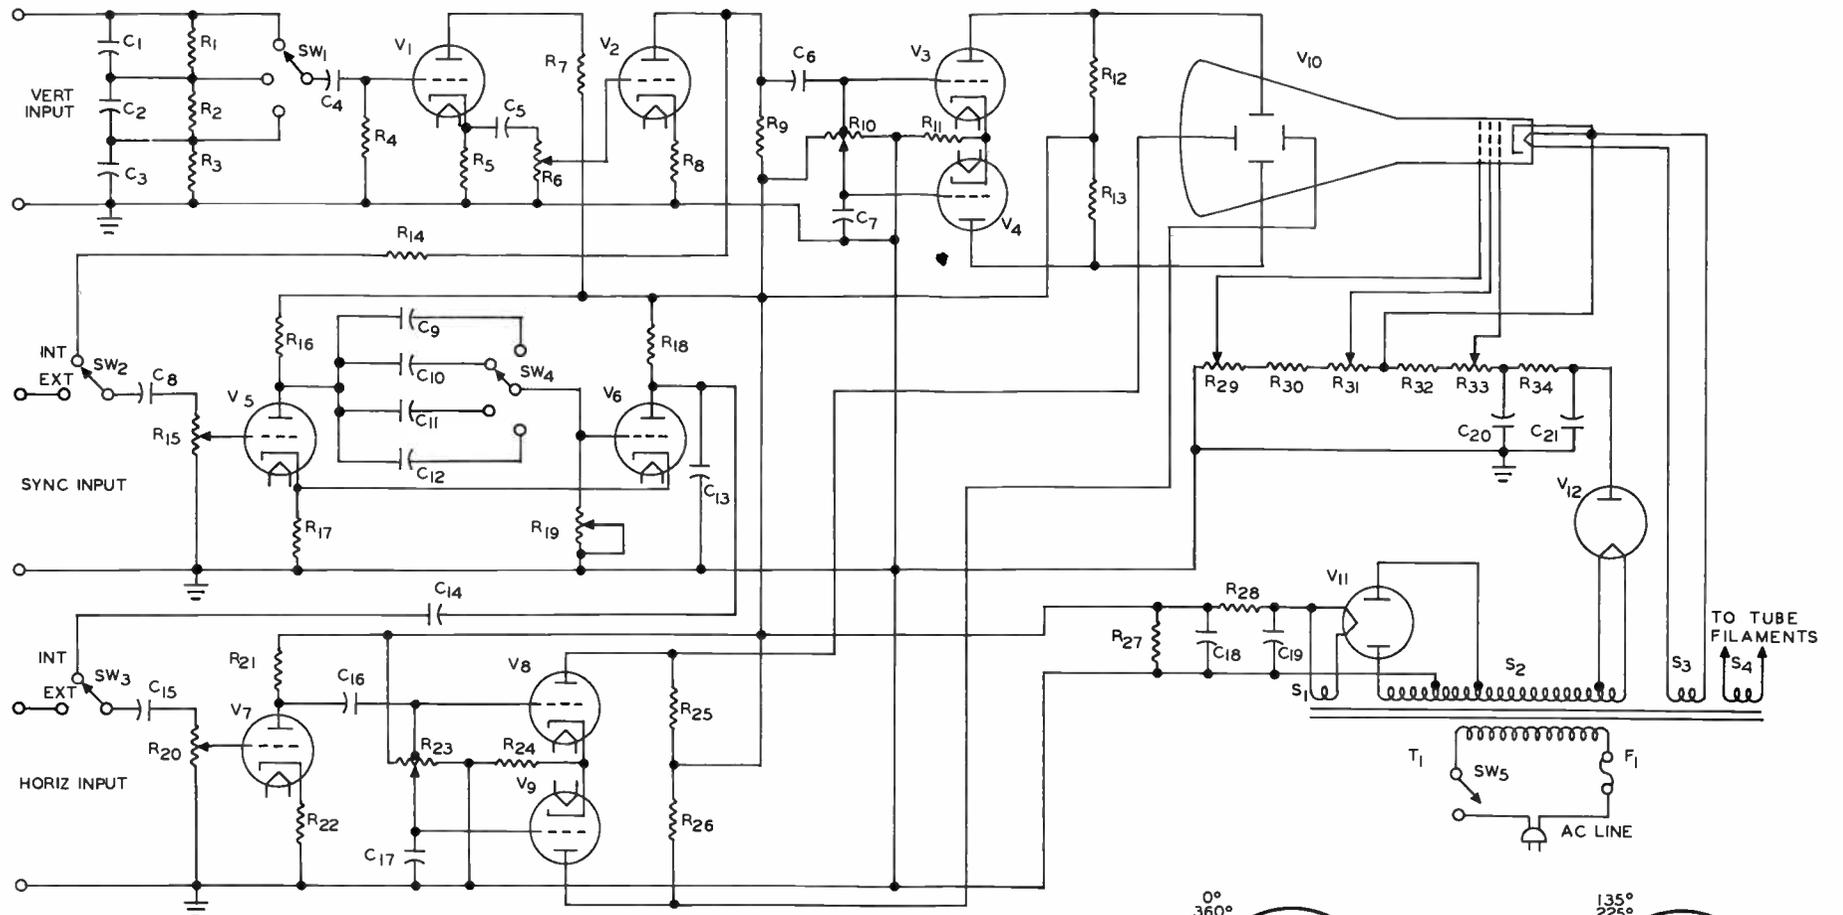

FIGURE 12
35. (1) the vertical amplifier of the scope, (2) the ac line, (3) an external source such as an accurate signal generator.
38. (b) decrease. -- At the setting shown in Figure 12 the full input signal is applied to  $V_1$ . At the other two settings, some fraction of the input signal amplitude is applied to  $V_1$ .
- In Figure 12, the internal sync signal is obtained from the